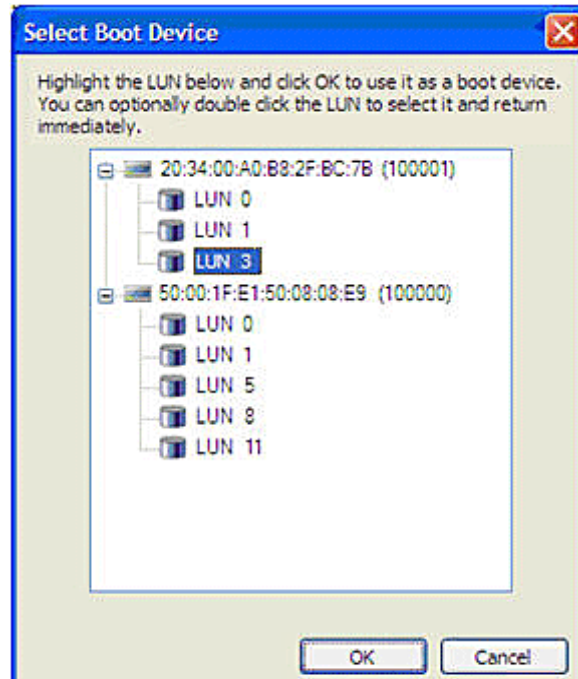

Figure 38: Select Boot Device window (for x86 or EFIBoot)
- Click **Select from List**, select the target from a list of discovered LUNs (if available) and click **OK** on the Select Boot Device window. While you can manually enter the target and LUN from the Boot from SAN Configuration window, it is easier to select an existing LUN from this window. (see Figure 38) The HBAnyware utility attempts to update the boot param-